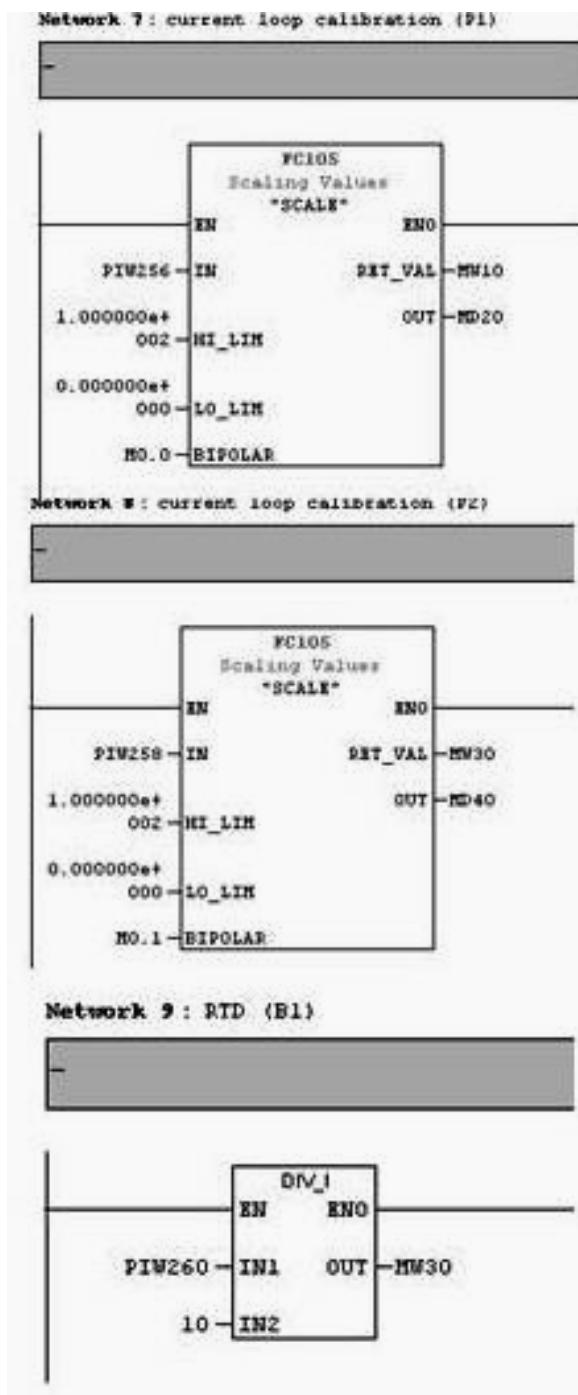

Figure 4.3 Ladder program for test circuit.
6. Create ladder program for testing circuit as shown in figure 4.3. (or create ladder program follow by your instructor recommendation)